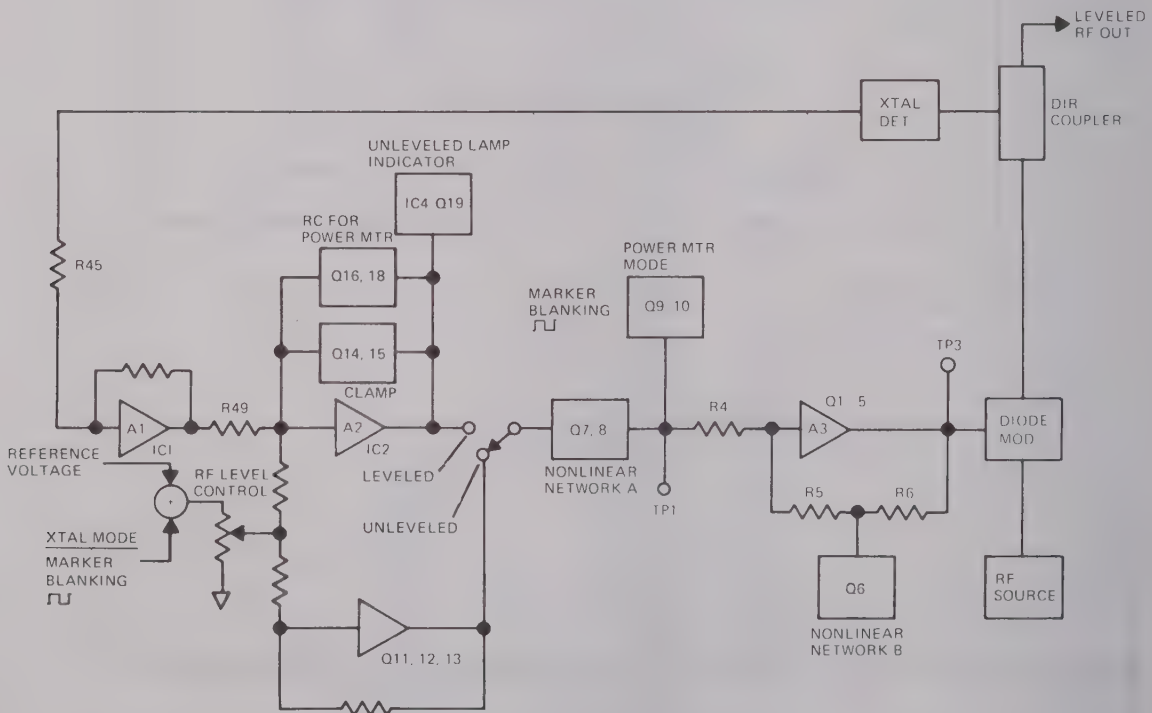

Fig. 10 Simplified block diagram of r.f. leveller
27. The levelling circuit controls the amplitude of the r.f. output. In the levelled mode, the amplitude is maintained constant as the r.f. frequency is swept across the band. In the unlevelled mode, the normal variation in r.f. source amplitude will be present at the output. In the levelled mode, a feedback amplifier is used consisting of a high gain amplifier, r.f. diode modulator, directional coupler and r.f. detector. This circuit is shown as a simplified block diagram in Fig. 10.